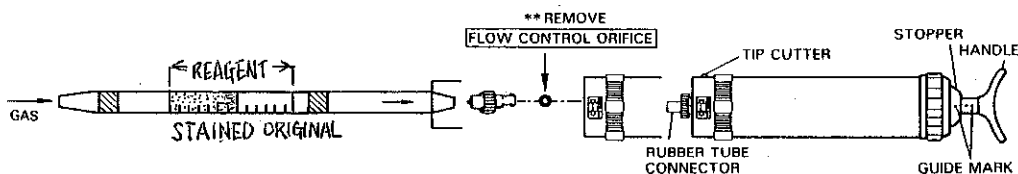

Fig. 1
1. Break tips of a fresh detector tube by bending each tube end in the tube tip cutter and then insert the tube end, of which direction is marked with broad arrow securely into pump inlet, as shown in Fig.1.